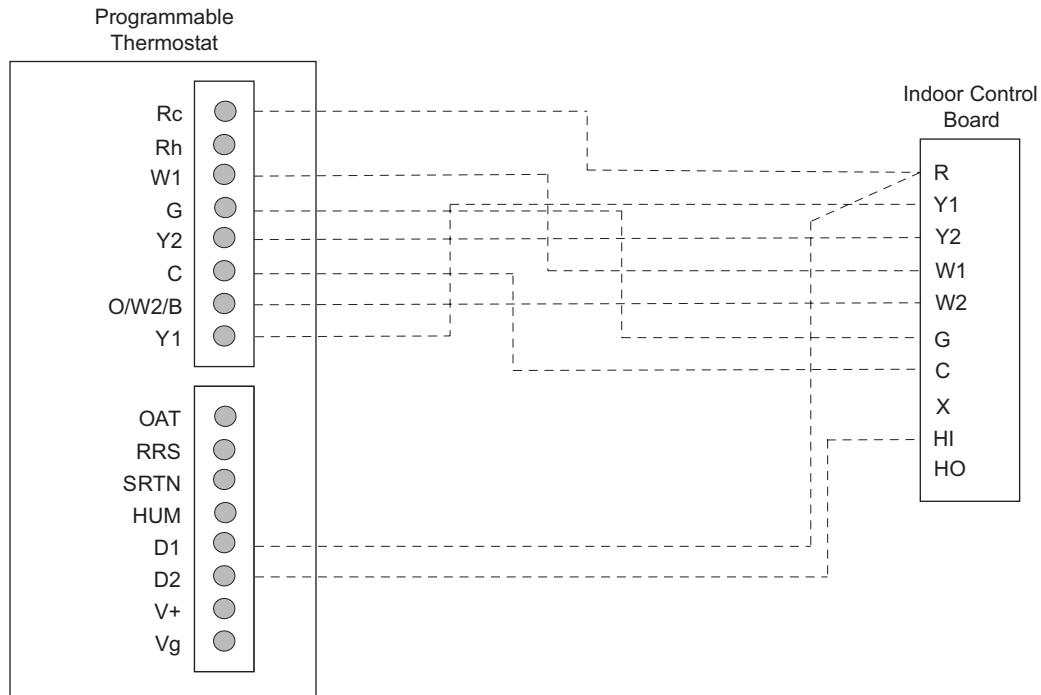

Fig. 31 — 40RL 07-12 Unit with Adaptive Dehumidification System with Edge Pro Thermidistat Device
2. The Thermidistat has dry contacts at terminals D1 and D2 for dehumidification operation (shown in Fig. 31 on page 27). Connect D1 to the R terminal on the IDCS. Connect D2 to the HUM terminal on the IDCS. Refer to the installation instructions included with the Carrier Edge® Pro Thermidistat device for more information.